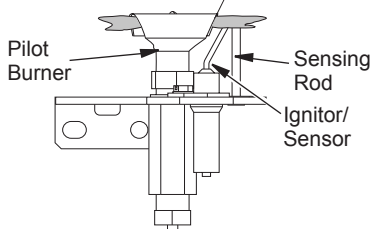

Figure 35 - Correct Pilot Flame Pattern
- Turn the adjustment screw marked PILOT clockwise to decrease or counterclockwise to increase the flame to proper size (see Figure 35). Do not remove the adjustment screw.